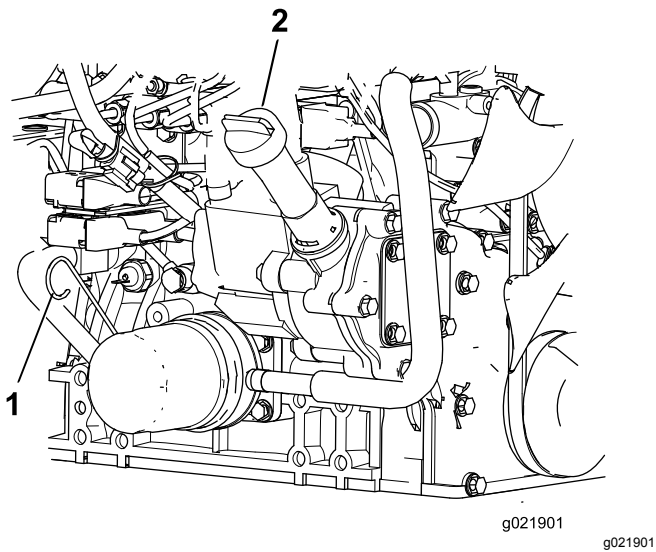

Figure 82
3. Remove the dipstick, wipe it clean, install the dipstick into the tube, and pull it out again. The oil level should be between the FULL and ADD marks (Figure 82).
4. If the oil level is low, remove the fill cap and add oil until it is between the FULL and ADD marks (Figure 82).